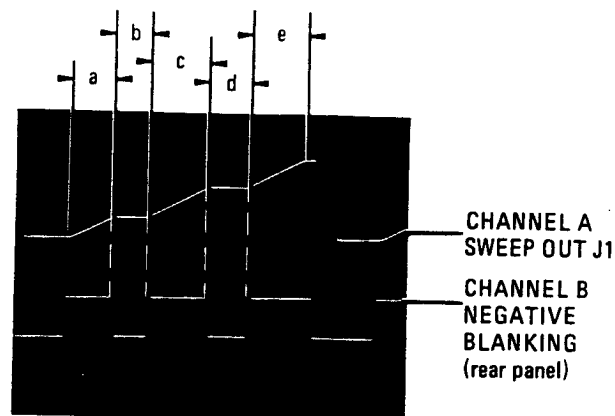

Figure 4-4. Sequential Sweep Ramp Compared in Time to Negative Blanking
- Adjust oscilloscope Channel A and Channel B to display waveform as shown in Figure 4-4.
- h. Relationship of sequential sweep ramp (Channel A) and Negative Blanking waveform (Channel E) should be as shown in Figure 4-4.